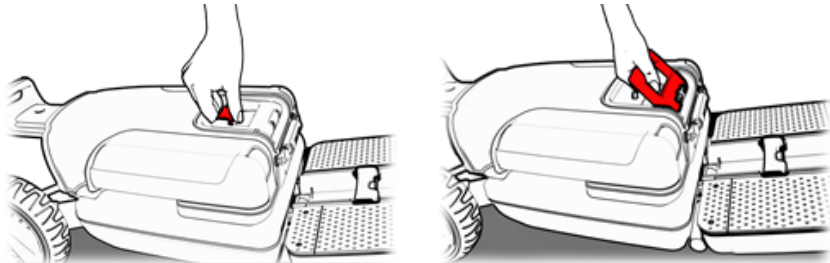

Figure 13
10. Place one hand on the tiller, and with the other hand, release the secure lever of the back handle (Figure 13, step 1) and bring the handle to an upright position of 90 degrees (Figure 13, step 2).